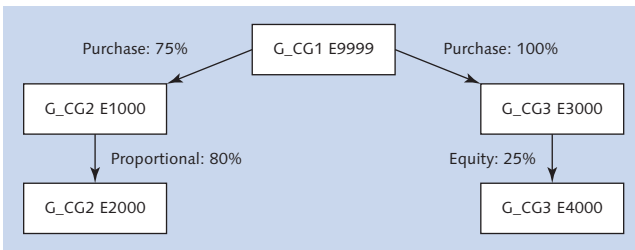

Figure 9.38 Ownership Structure (Example)
Consider the ownership structure of an organization as depicted in Figure 9.38. There are three consolidation groups—G_CG1, G_CG2, and G_CG3. Figure 9.39 shows the dimension members of the SCOPE dimension (dimension of type group) for the three groups. Notice that G_CG2 and G_CG3 have G_CG1 as parent group. The ownership information in the ownership model is maintained against the consolidation groups. You can also specify an entity property to each consolidation group where consolidated results for each group can be stored. During consolidation, if the STORE_ENTITY property of the group is set to Y and the entity property contains a valid entity, the system will post group-level elimination values to this entity.
1. Enter cross ownership data for percentage control (PCTRL) and percentage ownership (POWN) using the input form, as shown in Figure 9.43. The group is set to NON_GROUP. For example, in the organization structure scenario illustrated earlier in Figure 9.38, because E9999 owns 75% of E1000, the entity value is set to E9999, the intercompany value is set to I_E1000 (this is the intercompany dimension member associated with entity E1000), and the ownership is set to 0.75.
Let's look at some examples to understand how this information is maintained. Consider consolidation group G_CG1 (refer back to Figure 9.38). In this group, entity E9999 is the holding company, so we've set the value of METHOD of entity E9999 in consolidation group G_CG1 to "101." Entity E9999 owns 75% of E1000 and 100% of E3000 using the purchase method. So we've set the value of METHOD for entity E1000 and E3000 in the consolidation group G_CG1 to "100". Entity E1000 owns 80% of E2000 using the proportional method. Because the holding company of G_CG1 only holds 75% of E1000, and E1000 holds 80% of E2000, the percentage ownership of E2000 in the group G_CG1 is $0.75 \times 0.80 = 0.60$.